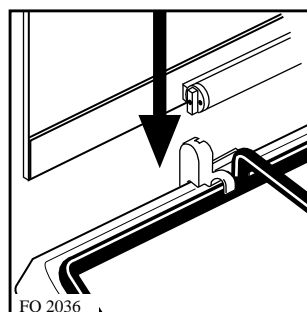

Fig. 11
- Fit the left hand lid hinge (marked S) into the hinge block (fig.11);